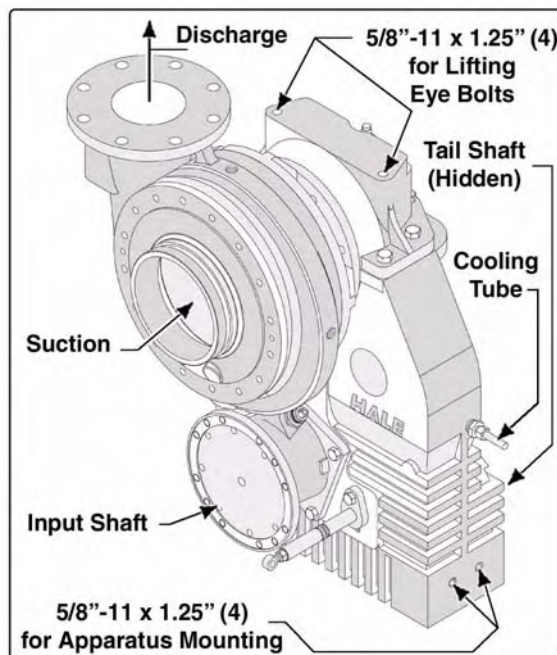

Figure 6-3: Pump / Gearbox Disconnect
3. Remove valve operators, discharge and suction piping and valves that would interfere with pump removal. (See Figure 6-3: "Pump / Gearbox Disconnect.")
6. Install 5/8"-11 UNC eyebolts into the lifting holes on the 8FG / DSD pump body. Attach proper lifting gear to these eyebolts. (See Figure 6-3: "Pump / Gearbox Disconnect.")
After completing repairs and/or maintenance, reinstall the pump and gearbox assembly to the apparatus before filling the gearbox with oil. (See Figure 6-3: "Pump / Gearbox Disconnect" on page 74.)